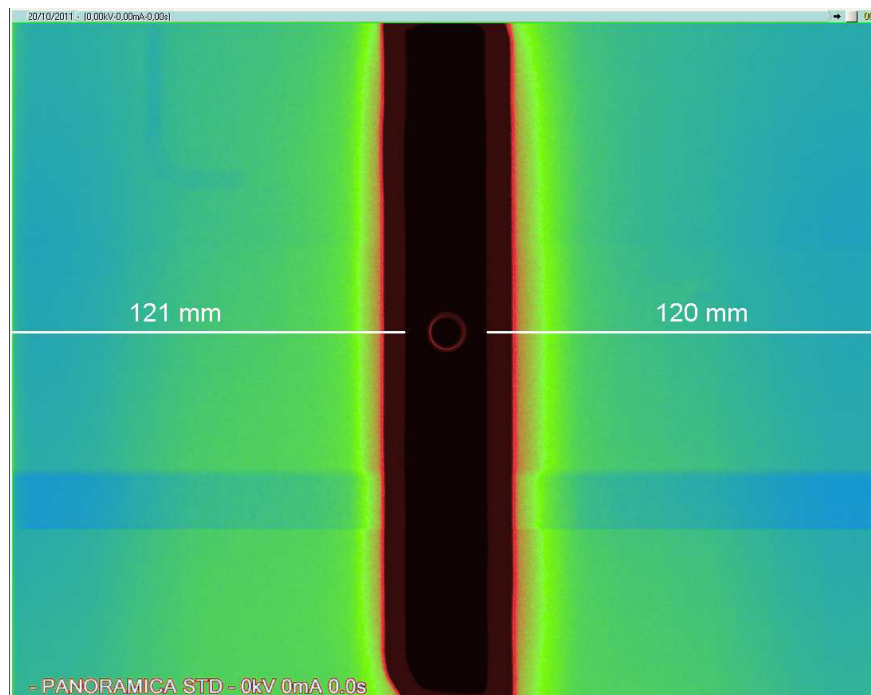

Figure 7-7
- 23.** Using the instructions in paragraph 7.2.1, measure the distance between the borders of the image and the borders of the central vertical stripe (Figure 7-7).